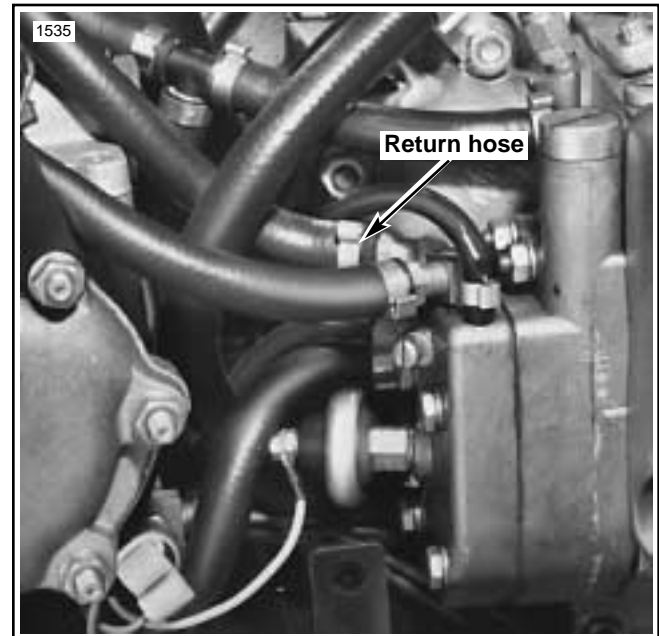

Figure 2. FX, FXR, and FL Oil Pump Return Hose
1. See Figure 2. Remove oil return hose at oil pump. Cut off a one inch length from the loose end of the hose so there is a new section to connect.